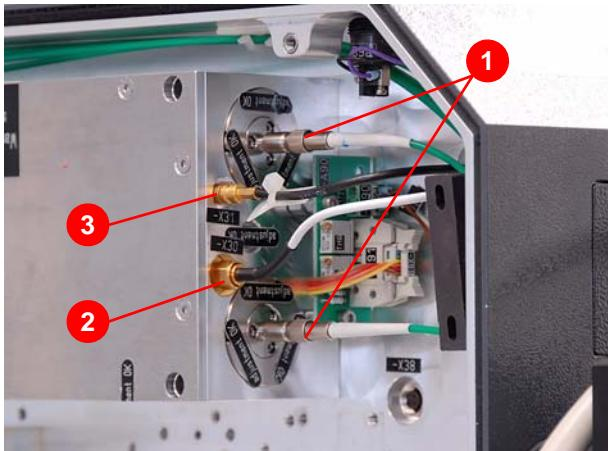

Figure 8.7 Connecting the resonator module
15. Remove the dust cap(s) from the resonator module and the glass fiber line(s) and connect the glass fiber(s) (1) (Figure 8.7).